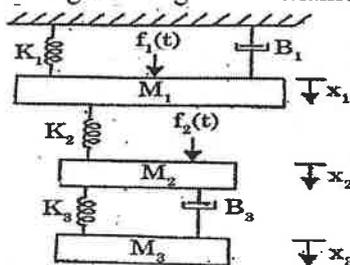

Fig.2
- ii) Write the differential equations governing the mechanical system shown in fig.2 5M